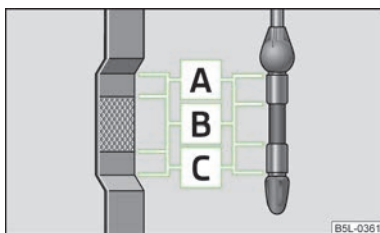

Fig. 116
The dipstick indicates the level of oil in the engine » Fig. 116.
- The oil level must on no account extend beyond the range **A** » Fig. 116. Risk of damaging the exhaust system!